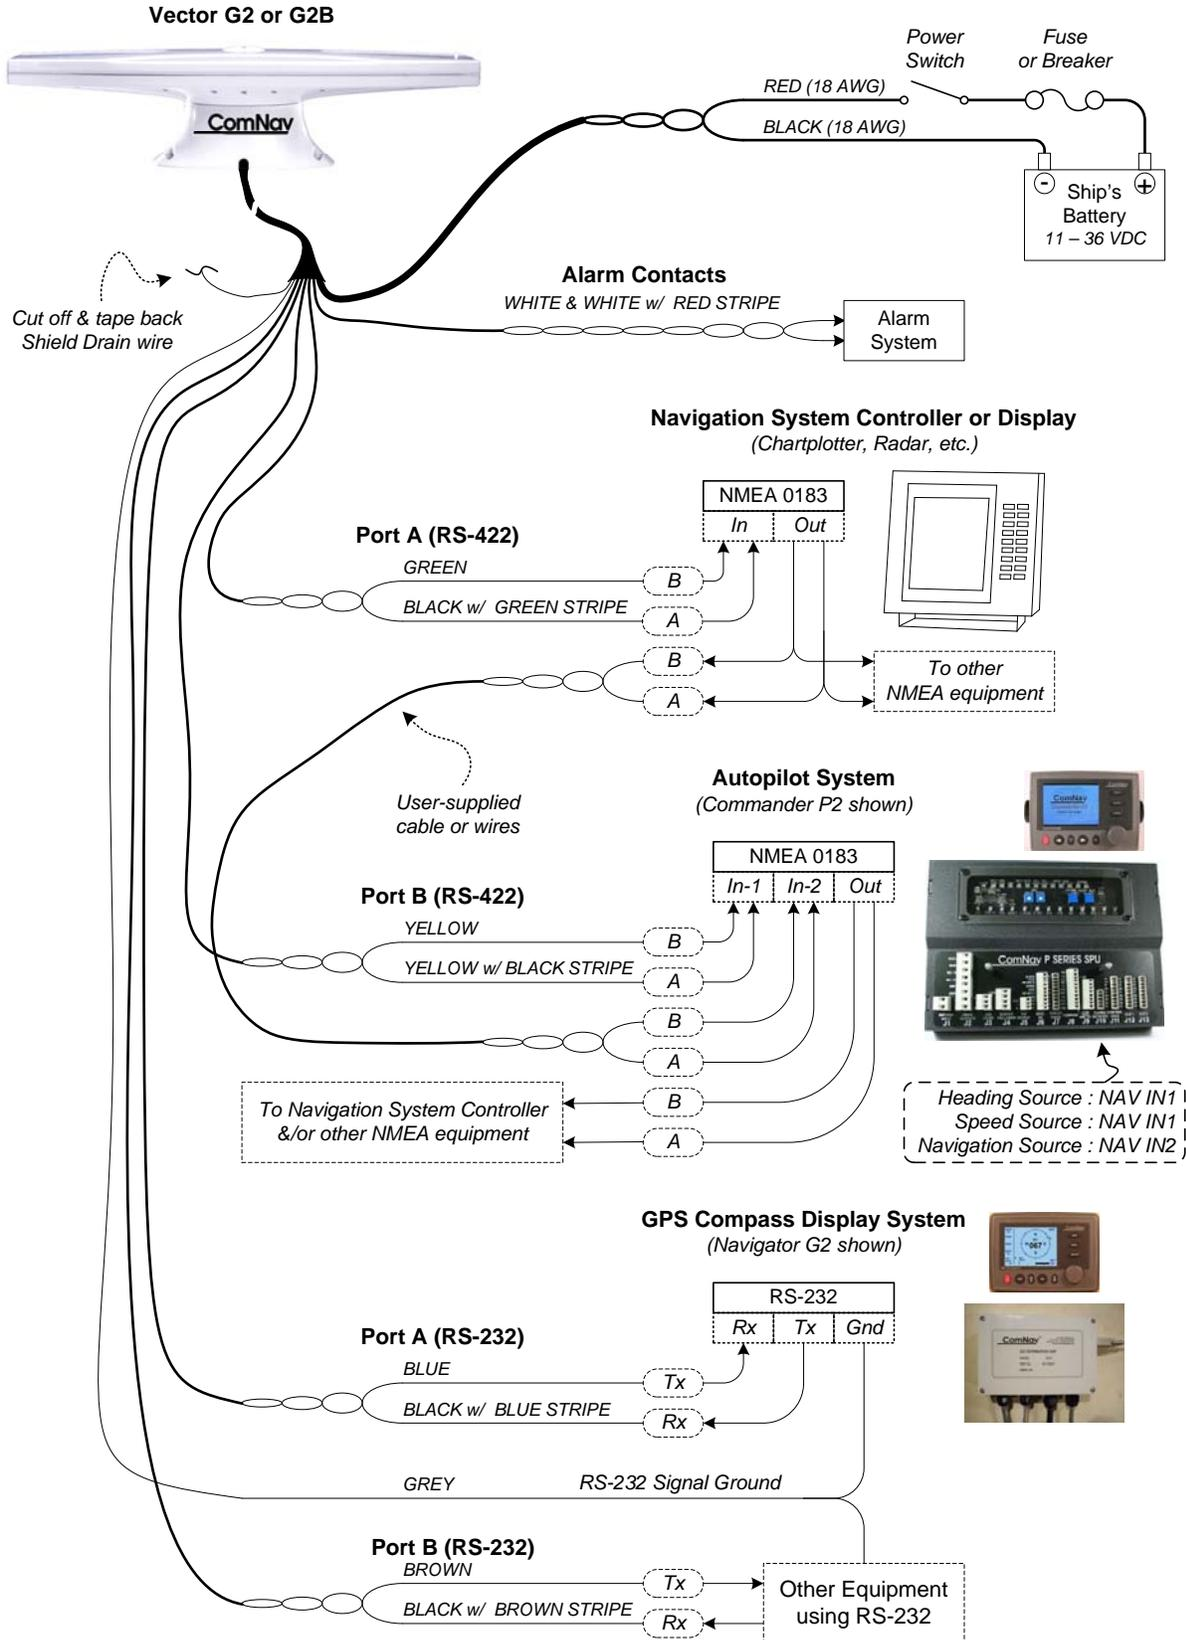
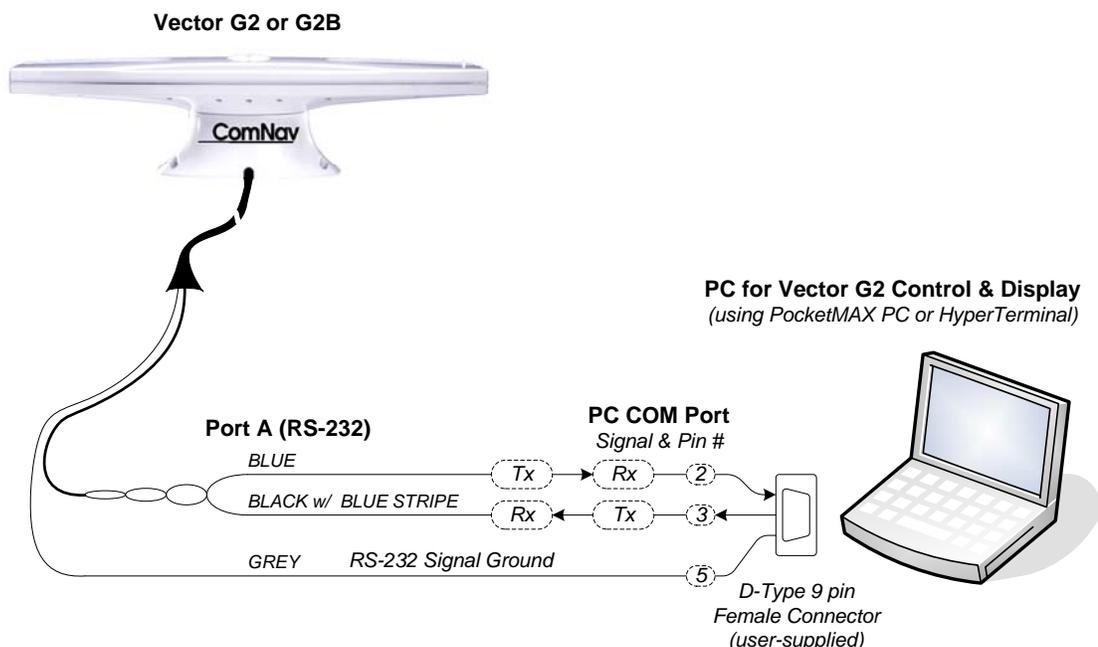
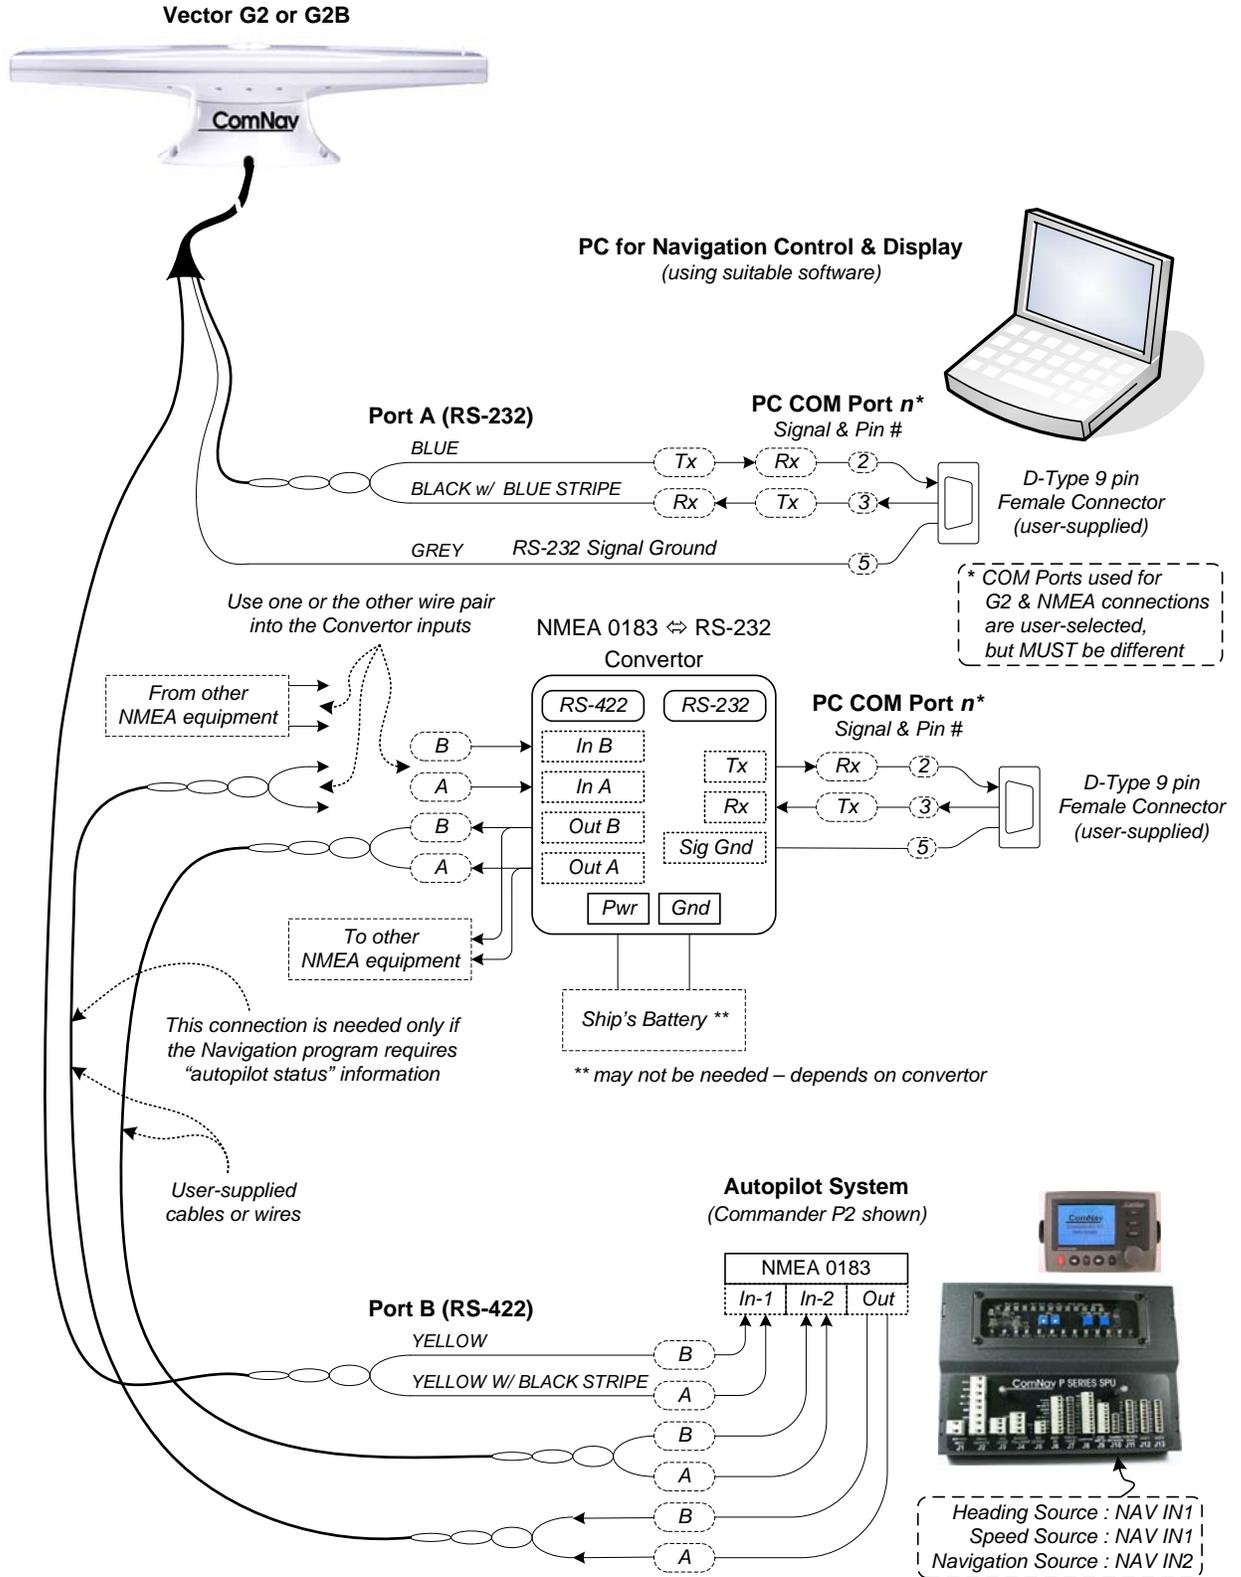

Figure 1 – Typical Wiring Diagram of a Vector G2 System (with Autopilot & Compass Display)
Figure 3 – Typical Wiring with a PC for Vector G2 Control & Display
Figure 4 – Typical Wiring with a PC-based Navigation Program
Note: *the Colour Code information in the wiring diagrams (see Figure 1, Figure 3 & Figure 4) shows only the colour codes of the cable types currently supplied with the Vector (cable type numbers 051-0157-002 & 051-0158-0001 – see the 3rd column in Table 2 above).*
There are a number of ways to make the data connections required between the Vector G2 and other equipment on the vessel. See Figure 1, Figure 3 and Figure 4 for examples:
Figure 1 shows the typical connections used with a ComNav Commander P2 Autopilot System (an Admiral P3 would be wired identically), a ComNav Navigator G2 GPS Compass Display System, and a generic Chartplotter or other type of *Navigation System*.
See Figure 1. Wiring of the Navigator G2 is fully described in the Navigator G2's Installation & Operation manual. Note that there is some flexibility in how the wiring between the Vector & the Navigator can be arranged, since part of the function of the Navigator's Distribution Unit is to be a simple, convenient "terminal strip" for the G2.
Figure 3 shows the typical connections when using a PC, instead of a Navigator G2 Display, to configure the G2, and/or monitor its status.
Figure 4 shows the typical connections when using a PC, instead of a Chartplotter or some other type of NMEA Navigation equipment, to perform “Navigation display &/or control” functions – viewing the vessel’s position on a chart, setting waypoints and so on.
⇒ Since very few PCs have built-in RS-422 ports, an RS-232 ⇔ RS-422 Converter will usually also be needed (as shown in Figure 4).
- *Wire the G2's Port A RS-232 Tx signal to the PC COM port's Rx signal, and wire the RS-232 Signal Ground, both as shown in Figure 4.*
The wiring for this scheme typically will be the same as Figure 4.
The suggested standard wiring diagrams (see Figure 1, Figure 3 and Figure 4) are based on that factory-default output configuration. But you may change the G2's configuration as required, and even wire it differently than shown in the standard diagrams.